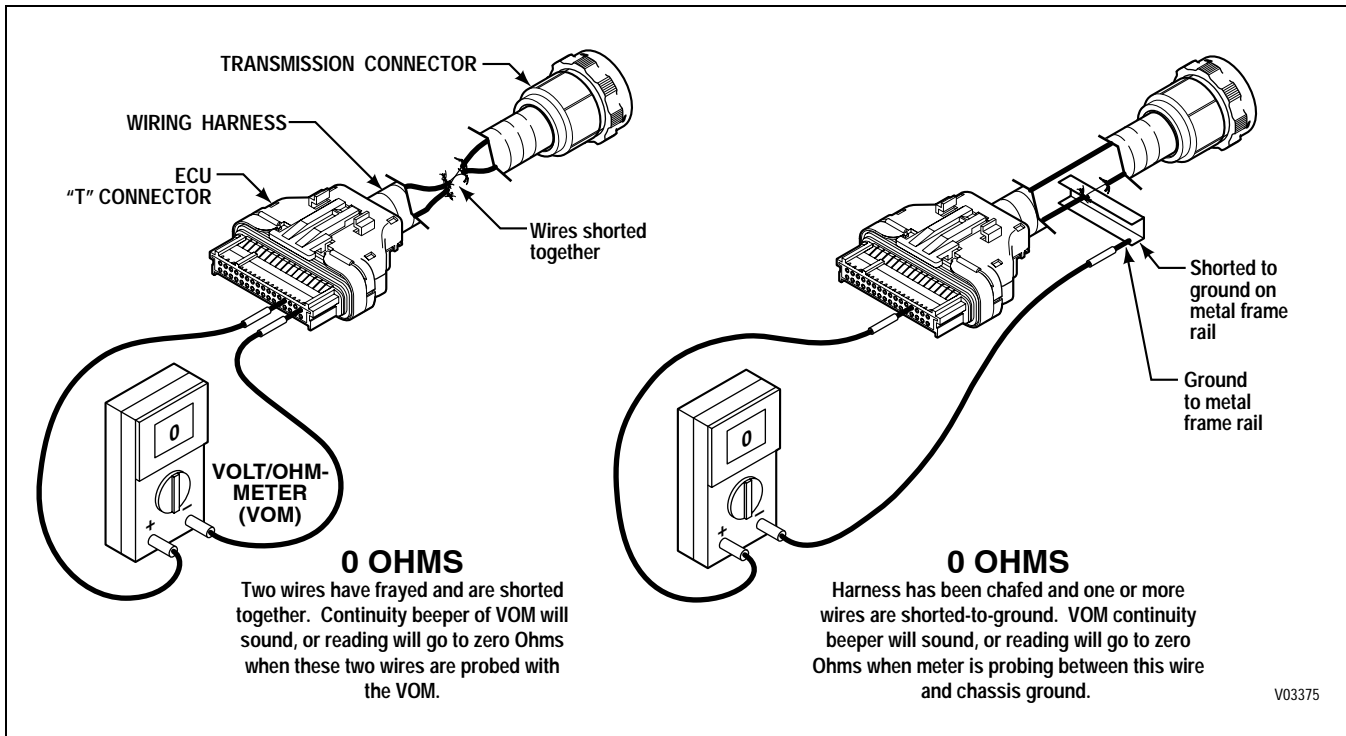

Figure 4–2. Short Between Wires and to Ground
- (2) On the opposite end of the harness, check the continuity of the jumpered pair. No continuity in a jumpered pair circuit (infinite resistance reading) indicates an open in the wire being tested. Locate and repair the damaged portion of the wire.
- b. If the continuity check is good (0–2 Ohms resistance), remove the jumpers. Check the harness for shorts between wires and shorts-to-ground by performing the following (refer to Figure 4–2):
- (1) At the ECU end of the harness, touch one VOM probe to one wire of the circuit being tested and touch the other probe to each terminal in the same connector, then touch the probe to chassis ground and to the transmission main housing. Do this for both wires in the circuit being tested.
- (2) If at any time the VOM shows zero to low resistance, or the meter’s continuity beeper sounds, there is a short between the two points being probed — wire-to-wire or wire-to-ground. Isolate and repair the short.
3. If the connectors are clean and connected correctly, determine which wires in the harness to test. Use the diagnostic code system schematic to locate the wire terminals. For this example, Code 41 12 indicates an open or short-to-ground in solenoid “A” circuit — wires 102-T1 and 120-T4 (refer to Figure 4–3 and 4–4).